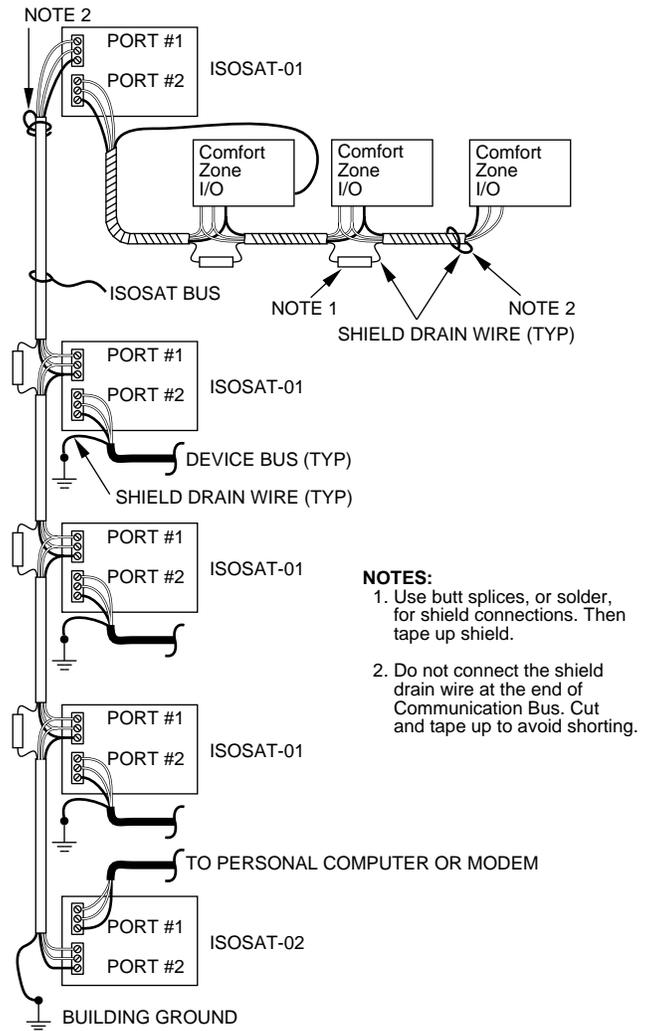

Fig. 4—Communication Network With An ISOSAT-02
4. Multiple device buses can be tied together for communications via ISOSAT-01. An ISOSAT-02 is required for remote or direct communications via personal computer or modem. (See Fig. 4.)